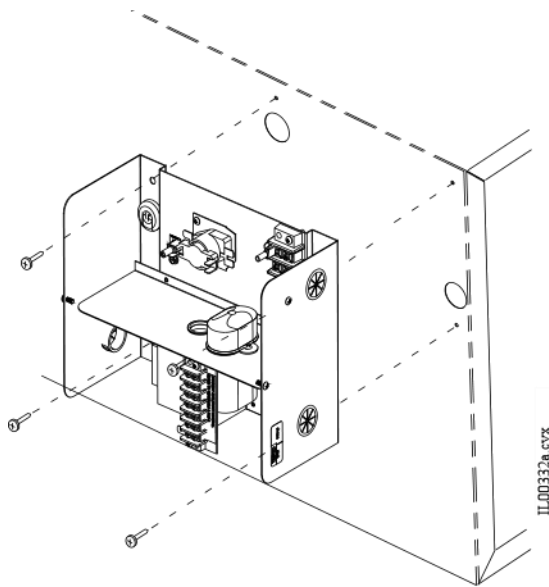

Figure 12. Control Box Mounting
The control box is shipped with the blower module. It can be installed on either the discharge side of the blower cabinet, on top, or on the bottom of the blower cabinet, depending on what is most convenient. To install, first remove the two knockouts on the side or top of the cabinet, where it will be installed. Mount the control box using four (4) sheet metal screws as shown in Figure 12. Connect the wiring as required in the wiring section and Bulletin 30-039 for the SCB control box and Bulletin 30-037 for the ST control box.